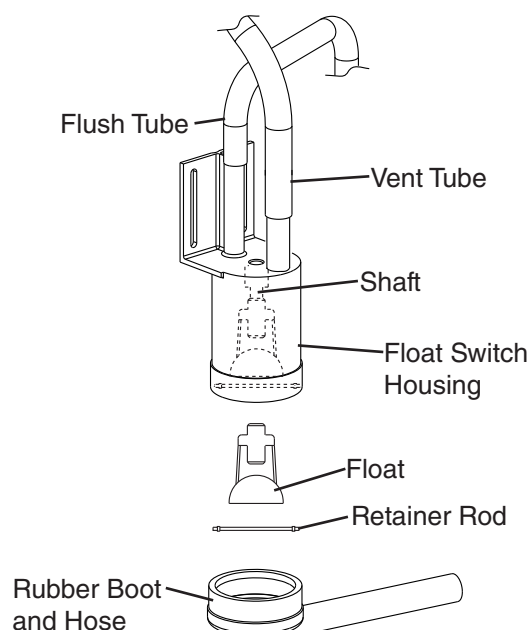

Fig. 3
- 7) Disconnect the vent tube and the flush tube from the top of F/S housing, then remove F/S assembly. Remove the rubber boot from the bottom of F/S assembly. See Fig. 3.